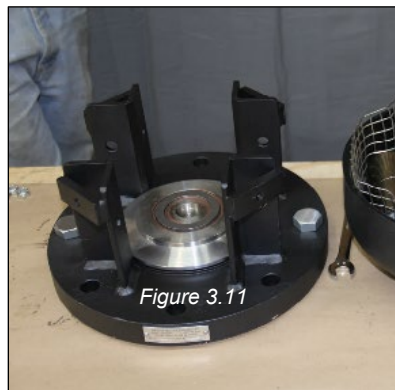

Figure 3.11
7. The sealing disc can then be lifted and removed from the valve body (*Figure 3.11 & 3.12*).